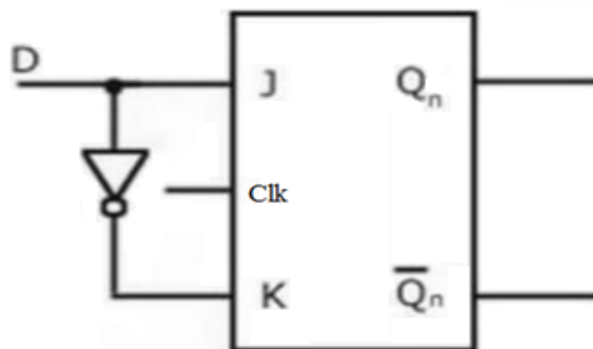

**Figure 10.3 Logic diagram of D flip-flop**
IC7476 is a Dual Master-slave JK flip-flop IC. It has two negative edge triggered JK flip-flops with active low preset and clear inputs. Preset (PR) input should be low to set the output Q (logic level 1). Clear (CR or CLR) input should be low to clear the output Q (logic level 0). The truth table of JK flip-flop is as given in figure 10.3.